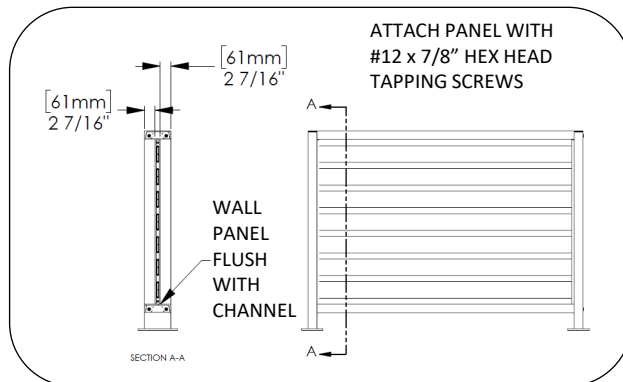

Fig. 5 – ATTACH HORIZONTAL SLAT WALL PANEL
- For horizontal slat panel, see Fig. 5.